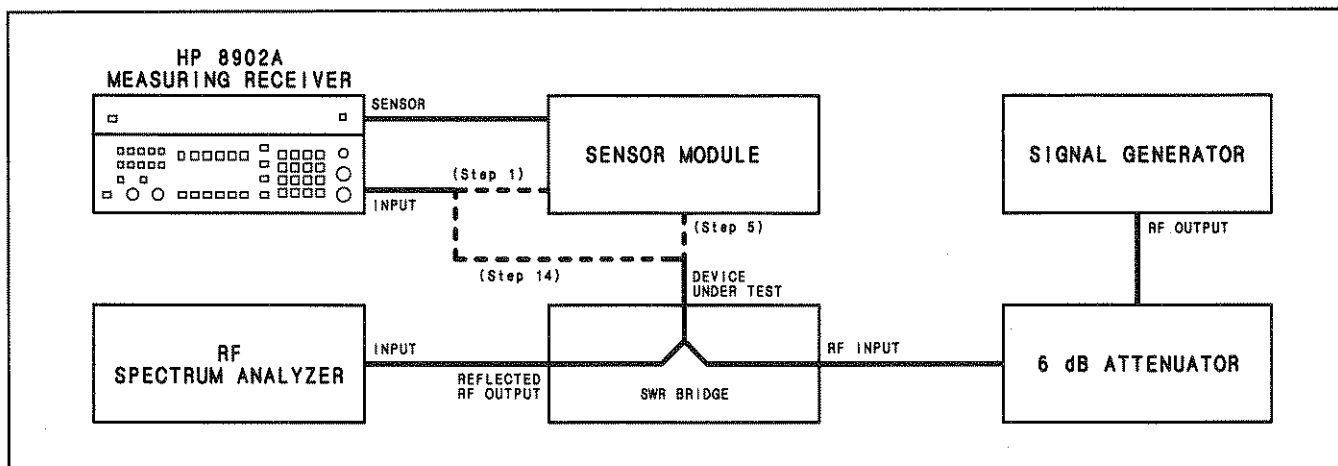

Figure 4-7. SWR Performance Test Setup
1. Connect the equipment as shown in Figure 4-7. Connect the 6 dB attenuator directly to the RF input of the SWR bridge. Do not connect anything to the device-under-test input of the SWR bridge at this time.
5. On the Measuring Receiver, press the blue key then press **INSTR PRESET** (the **AUTOMATIC OPERATION** key) to preset the instrument. Press **RF POWER**. Connect the sensor module to the SWR bridge. (See Figure 4-7.)
- 14. Disconnect the sensor module from the SWR bridge and the Measuring Receiver's input. Connect the SWR bridge's RF input directly to the Measuring Receiver's INPUT connector. (See Figure 4-7.)